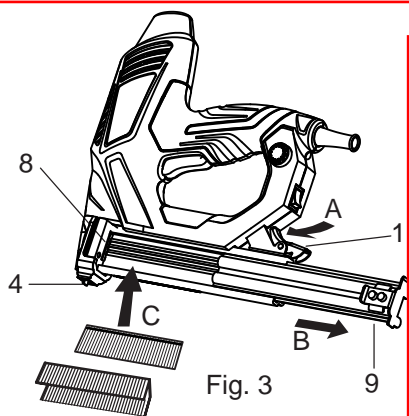

Fig. 3
- > Switch off and unplug before insert nails, turn tool upside down (Fig.3)
- > Press lever (1) while pulling slider (9) backwards Insert the nail strip into magazine (8) with heads facing upward (maximal capacity 100 nails)
- > Push slider (9) against nailer head (4) until it snap locks.
- > When inserting a nail strip (not supplied with the tool) tilt the tool in such a way, that the nail strip rests against the magazine side which corresponds with the nail symbol on nailer head (4) nail points upward.